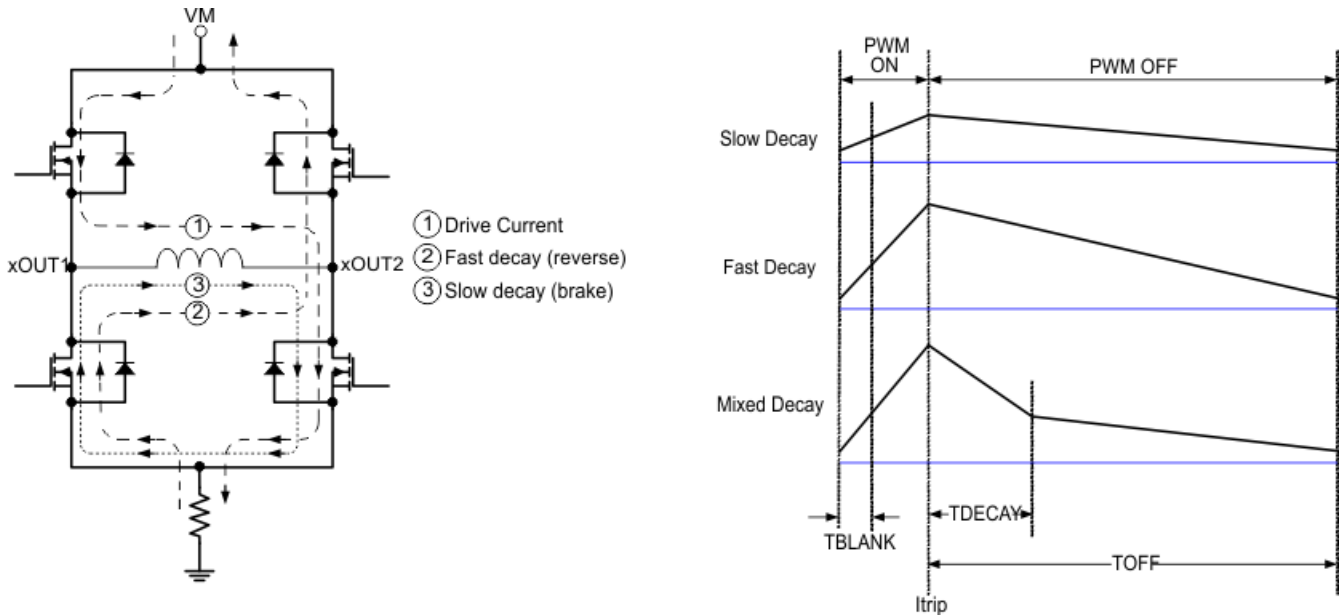

图 16. Decay Modes
During PWM current chopping, the H-bridge is enabled to drive through the motor winding until the PWM current chopping threshold is reached. This is shown in 图 16, Item 1.
Once the chopping current threshold is reached, the H-bridge can operate in two different states, fast decay or slow decay. In fast decay mode, once the PWM chopping current level has been reached, the H-bridge reverses state to allow winding current to flow in a reverse direction. The opposite FETs are turned on; as the winding current approaches zero, the bridge is disabled to prevent any reverse current flow. Fast decay mode is shown in 图 16, item 2. In slow decay mode, winding current is re-circulated by enabling both of the low-side FETs in the bridge. This is shown in 图 16, Item 3.